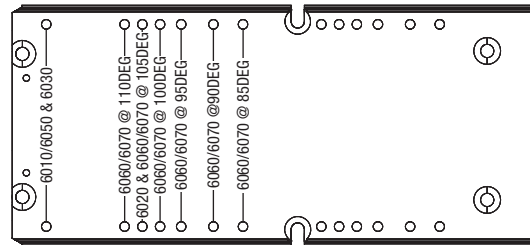
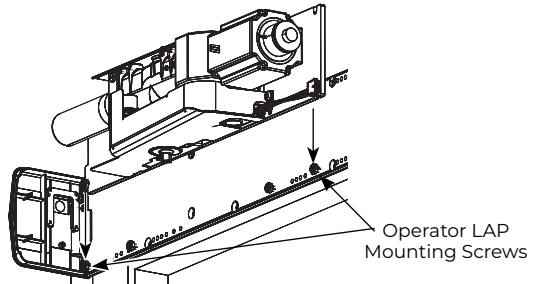

Figure 10
Figure 11 Left Hand LAP shown
1. With backplates mounted to frame, use text to locate holes along bottom of backplates that correspond to your specific closer installation. (Figure 10)
2. Insert two (2) 1/4-20 x 1/2" Phillips pan head screws on each backplate into appropriate engraved locations. Leave a 5/16" minimum gap between backplate and underside of screw head.
3. On each backplate, orient LAP so spring tube of closer is pointed toward closest hinge edge of frame. Slide each LAP over two (2) screws and tighten. (Figure 11)